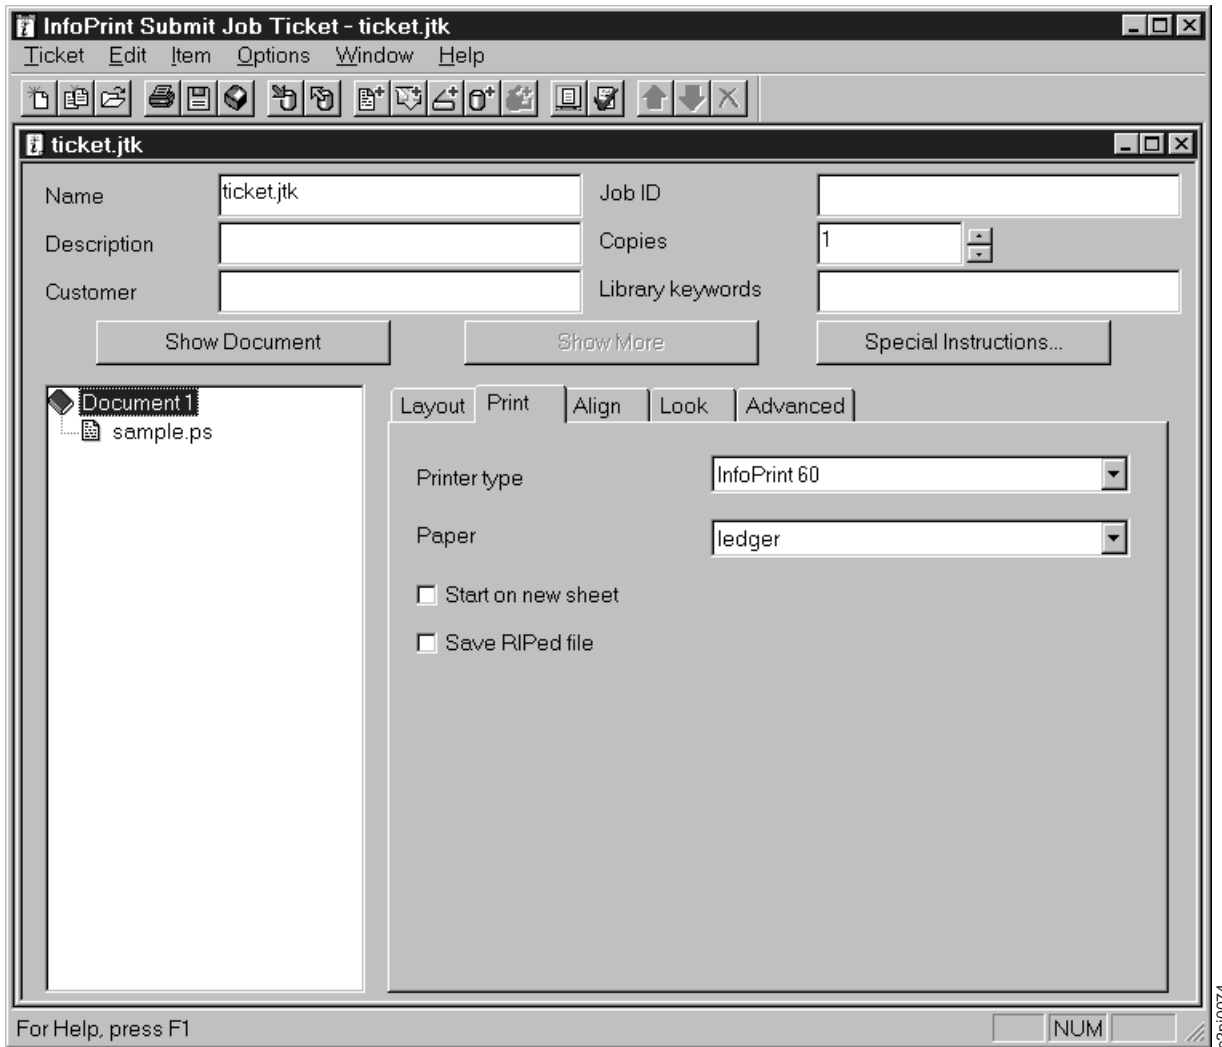

Figure 39. Saddle Stitched 2-UP Document - Print Tab
5. Select the Print tab. You see the Saddle Stitched 2-UP Document - Layout Tab widow (Figure 39 on page 41).